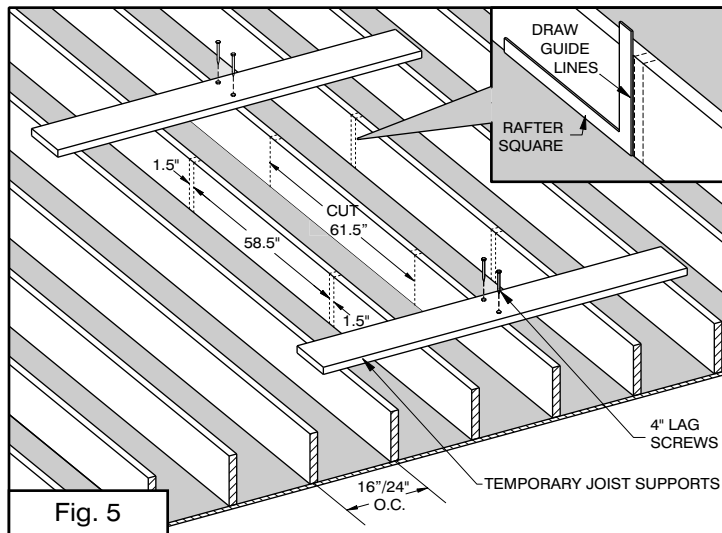
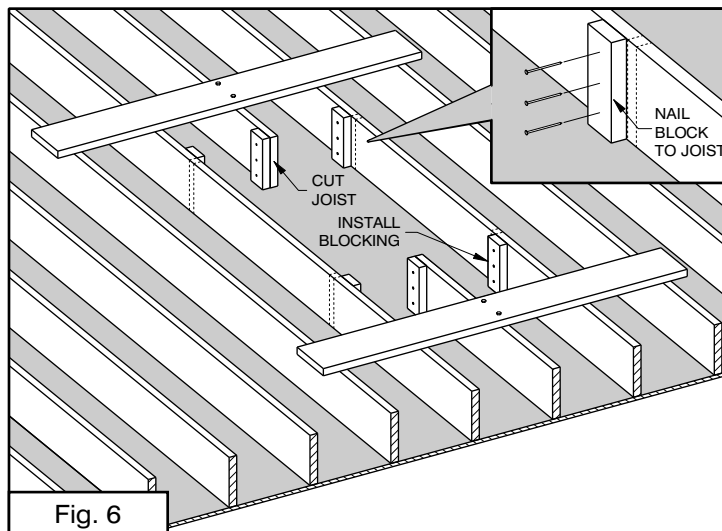
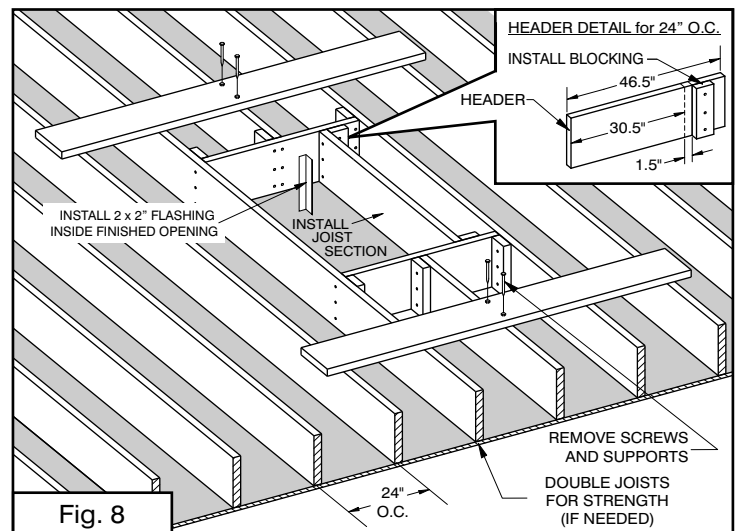

Fig. 5
Fig. 6
Fig. 8
You will need temporary supports for any joist that will be cut. One technique is shown below using two 2 x 8" (minimum size) planks to span the adjacent joists. Each plank is secured with 2 lag screws to the joist(s) to be cut (Fig. 5). A framing square is used to mark guide lines for headers and cut lines (Fig. 5 inset). After cutting the joist, 2x4" or 2x6" blocking is installed (Fig. 6 & inset).
**For joists on 24" centers:** Cut the headers 46.5" long and install blocking (Fig. 8 & inset). Install the headers. Trim the joist section (removed in Fig. 5) to 58.5" long and install it to finish the framed opening (Fig. 8).